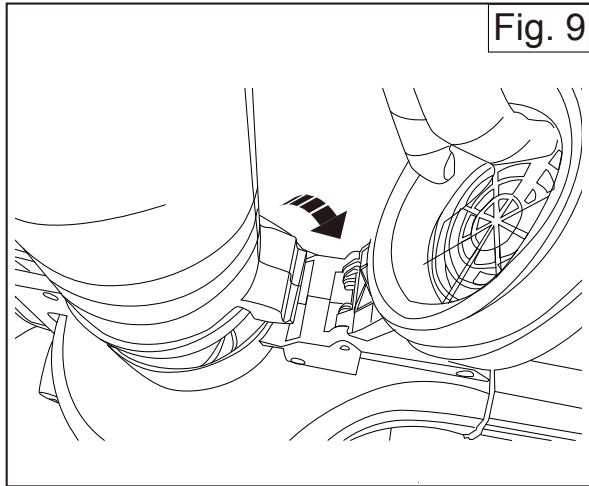
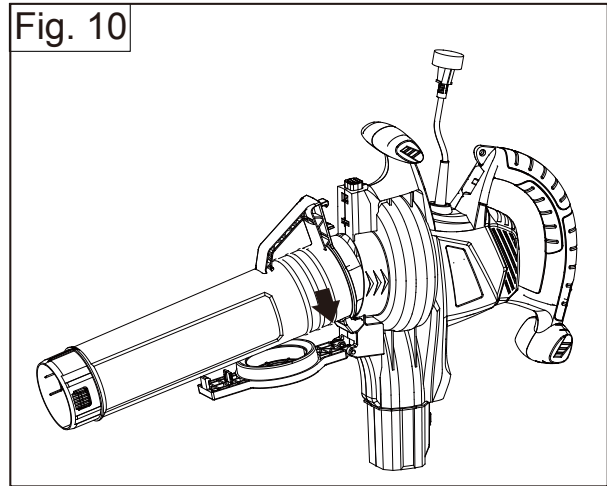

Fig. 9
Fig. 10
4. Attach the upper vacuum tube assembly to the motor housing by inserting the assembly tab as indicated (Fig. 9). Next, pivot tube from this point until the locking/release catch "clicks" and is fully engaged (Fig.10).